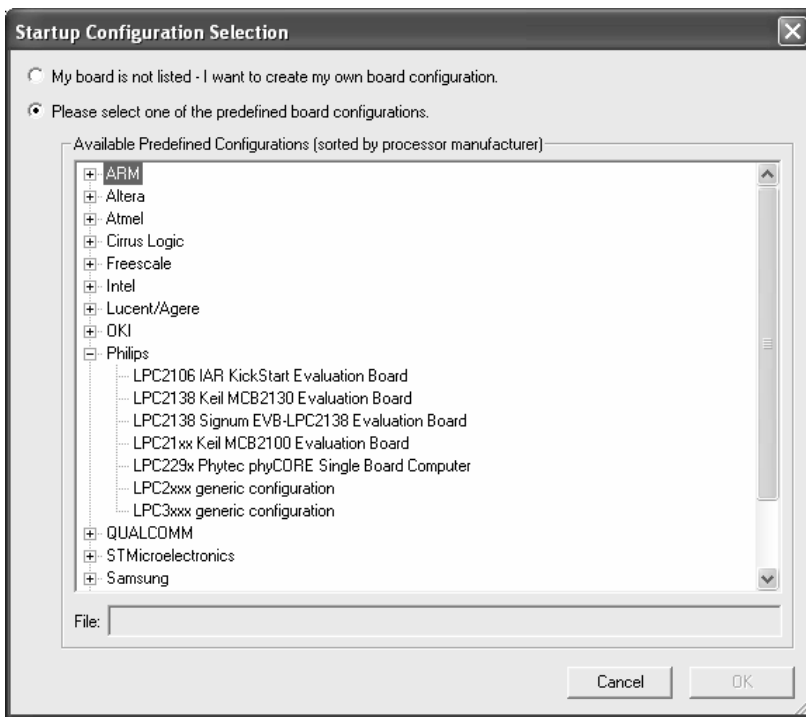

FIGURE 6 The Startup Configuration Selection window..
6. In the Startup Configuration Selection window a list of supported boards will appear, sorted by manufactures of the ARM device used on the board. (Figure 6).